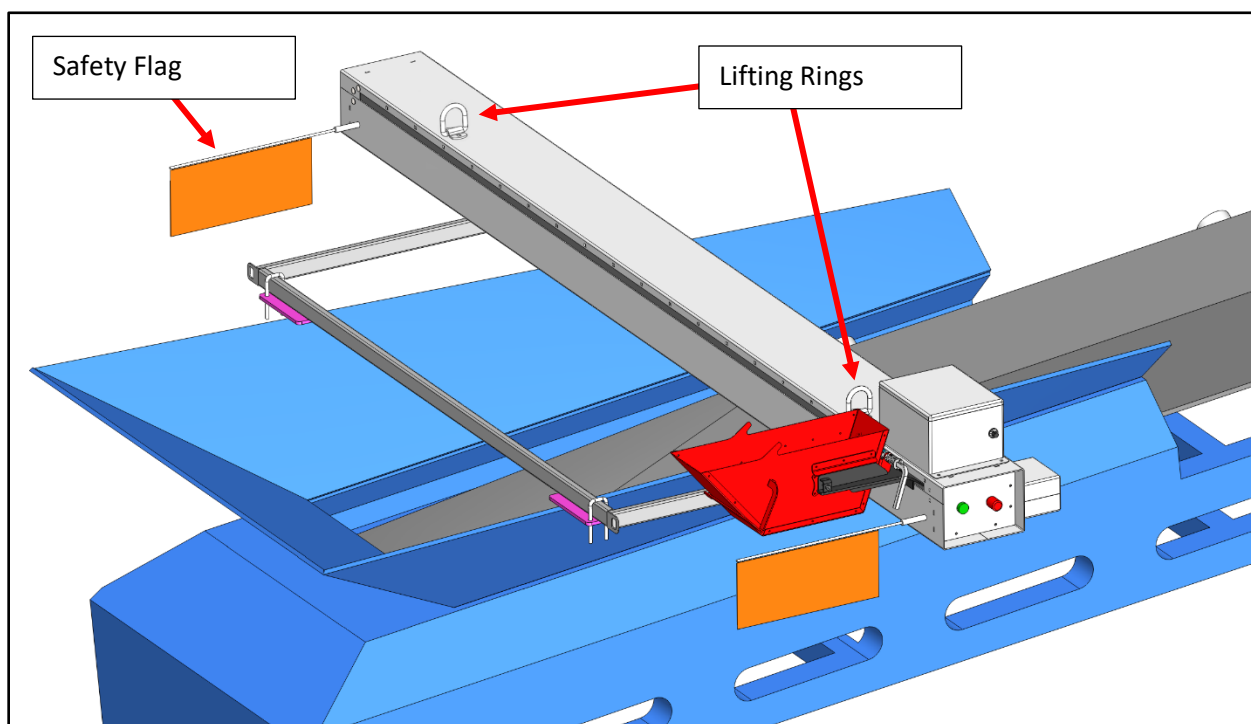

Figure 3 – Showing sample taker attached to conveyor (blue) with U-bolt brackets. Shown with upstream bucket arrangement.
- It is recommended to use the supplied D-rings (see Figure 3) to lift the sample taker into place.